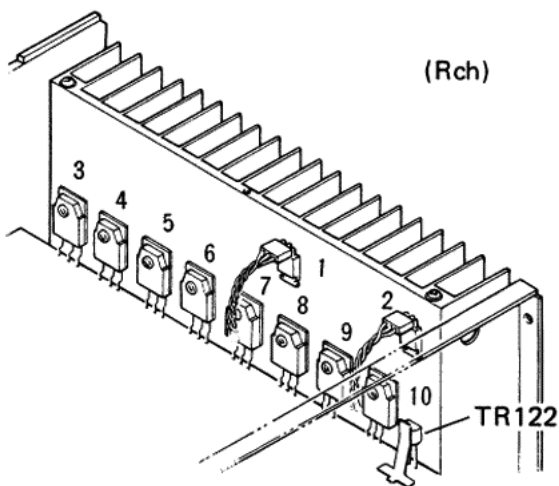

Fig. 12
- Detach the connectors ① and ② in Fig. 12 which are connected to the drive transistors.
- Remove screws ③ through ⑩ in Fig. 12 which fix the power transistors and then exchange the transistors.
- * After the heat sink has been mounted, check that TR122 can sufficiently touch the heat sink. Apply silicon grease to the contact surface. When the heat coupling between power transistor and the heat sink is imperfect, the power transistors may be damaged by thermal run away. (Fig. 12)